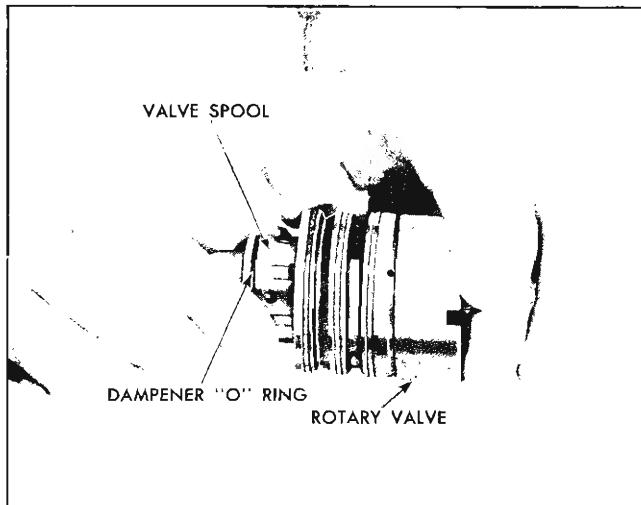

Fig. 9A-15 Removing Valve Spool from Rotary Valve
**.0004". The slightest cocking of the spool may jam it in the valve body (Fig. 9A-15).**